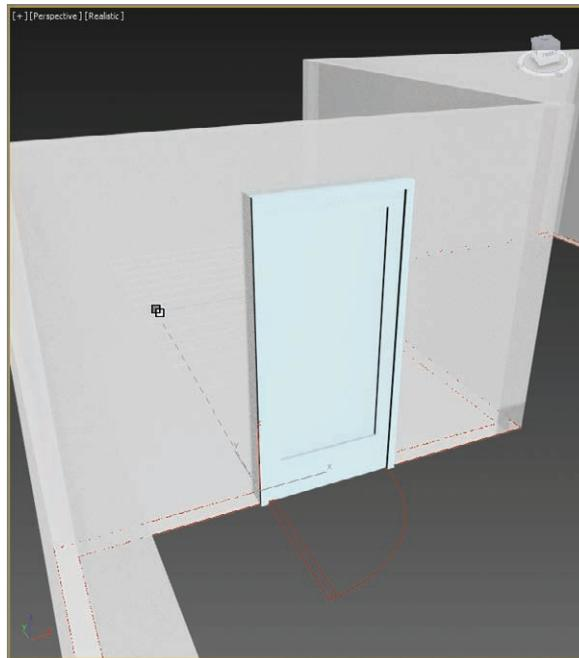

FIGURE 3.11 Use the Select and Link tool to create an opening in the wall for the door.
9. In the main toolbar, click the Select and Link tool () and click and drag from the door to the wall, as shown in Figure 3.11. This will make a doorway opening in the wall.